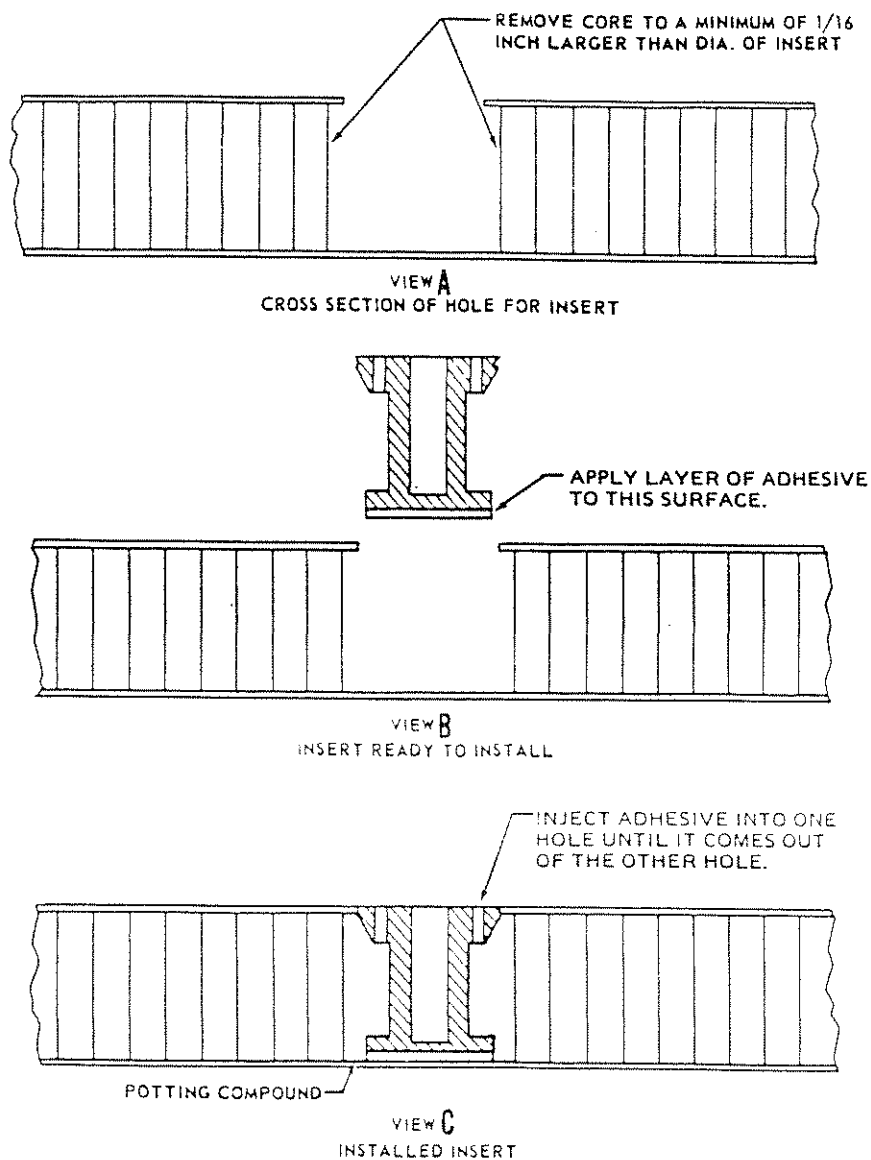

FIGURE 1
- 3.5 Install insert into panel and inject adhesive as shown in Figure 1.